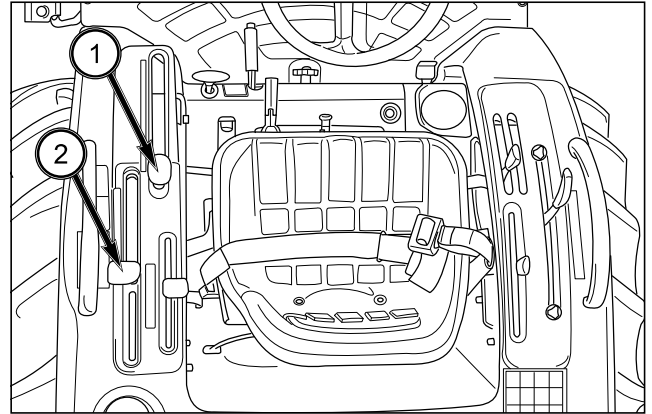

FIG. 85
FIG. 85: Gear shift lever (1) provides 4 gear selections. These gear selections are compounded by range shift lever (2). The range shift lever provides 3 major changes in ground speed. Gear shift lever provides smaller ground speed changes.